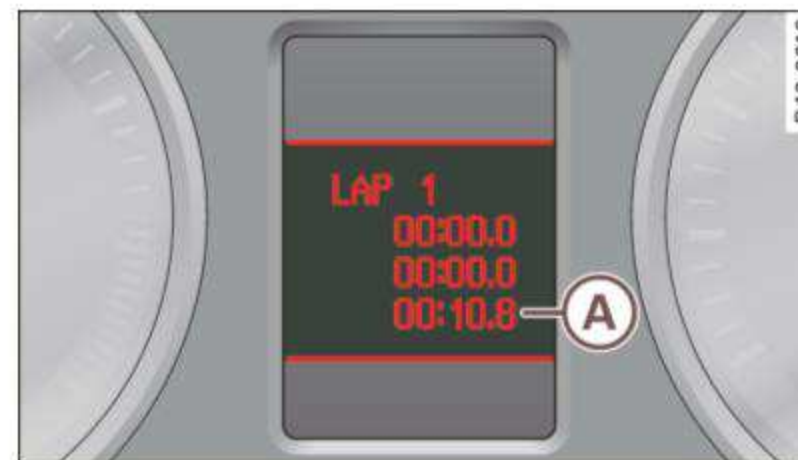

Fig. 19 Display: Lap 1
- Press the upper section of the rocker switch. Row **(A)** ⇒ fig. 19 displays the current lap time.